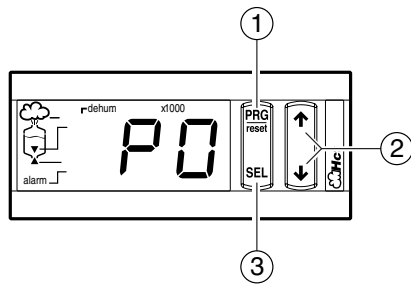

Fig. 8.2.1
1. press the PRG button for around 5 seconds until the code P0 appears, representing the first parameter (see Fig. 8.2.1);